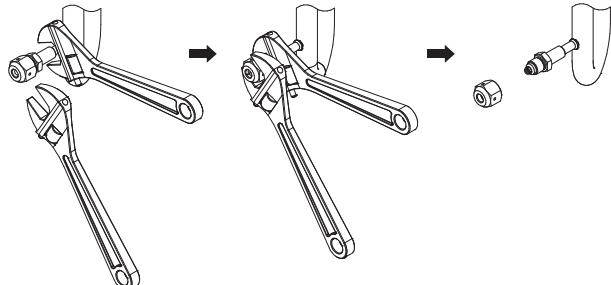

Figure 2
- Remove the flare cap and flare nut from the gauge port-check valve (Figure 2).